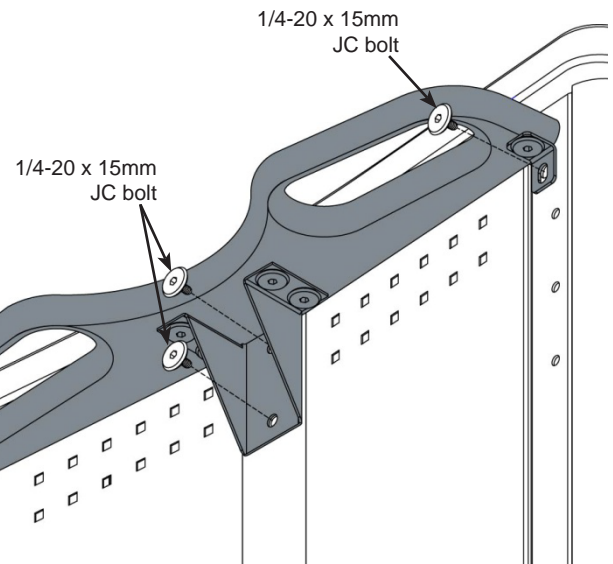

Figure 2
- B. Attach the handle assembly to the side of the lectern with (4) 1/4-20 x 15mm JC bolts. As shown in **Figure 2**.